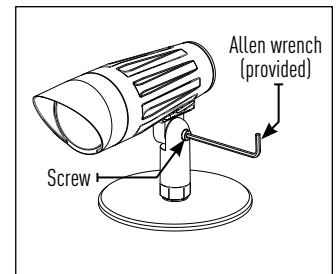

Figure 4
4. Use provided allen wrench to slightly loosen stainless steel socket head cap screw at knuckle for aiming. Tighten to secure when desired aiming is achieved (Fig. 4 & 5).